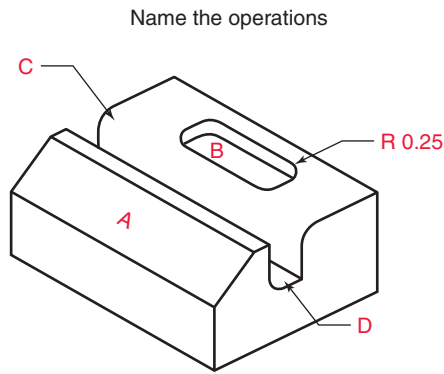

Figure 12-37 Name the operations and setup needed to make this object.
11. Using the operations we've discussed, identify the four used to make the part sketched in Fig. 12-37 and the possible setup/cutter combination to make it. There may be more than one way to accomplish the feature.